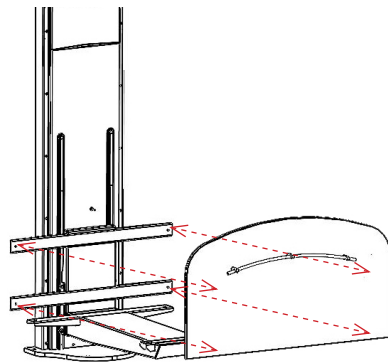

FIGURE 2.7 - Install Back Panel
STEP 1: Carefully align the table back panel with four holes on the lift frame. See FIGURE 2.7